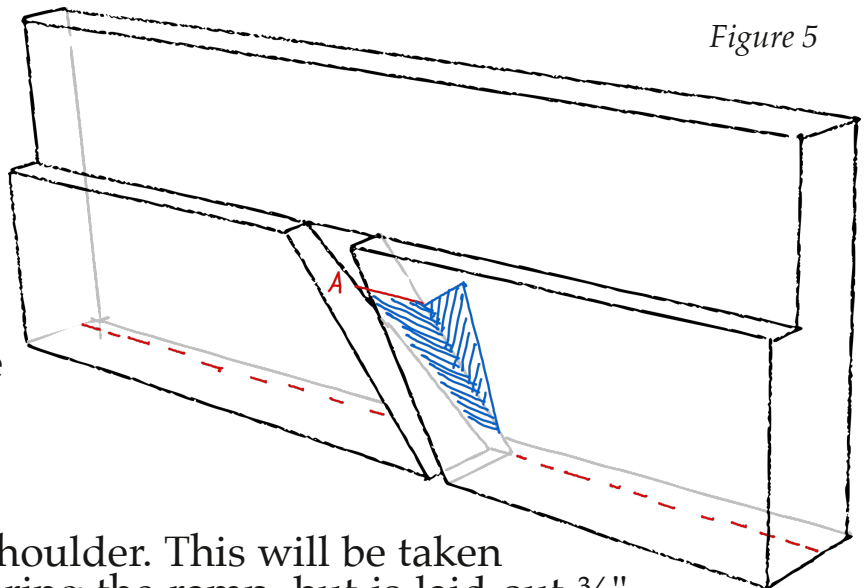

Figure 5
Remove the waste between the saw kerfs with a chisel to achieve the form in Figure 5.
The goal is to remove the blue shaded area in Figures 5 and 6. This is done by alternately chopping across the escapement at (A) and, using the bed and breast as references, chopping down to define the edges of the mouth cavity. When chopping along the bed and breast, tip the chisel back (out of plumb) a little bit to avoid undercutting either face. This slight out of squareness is easily cleaned up later with floats, but undercutting will require altering the layout or geometry of the mouth to remedy. Also, avoid chiseling too close to the mouth or you risk intersecting the yet-to-be cut blind-side bevel.